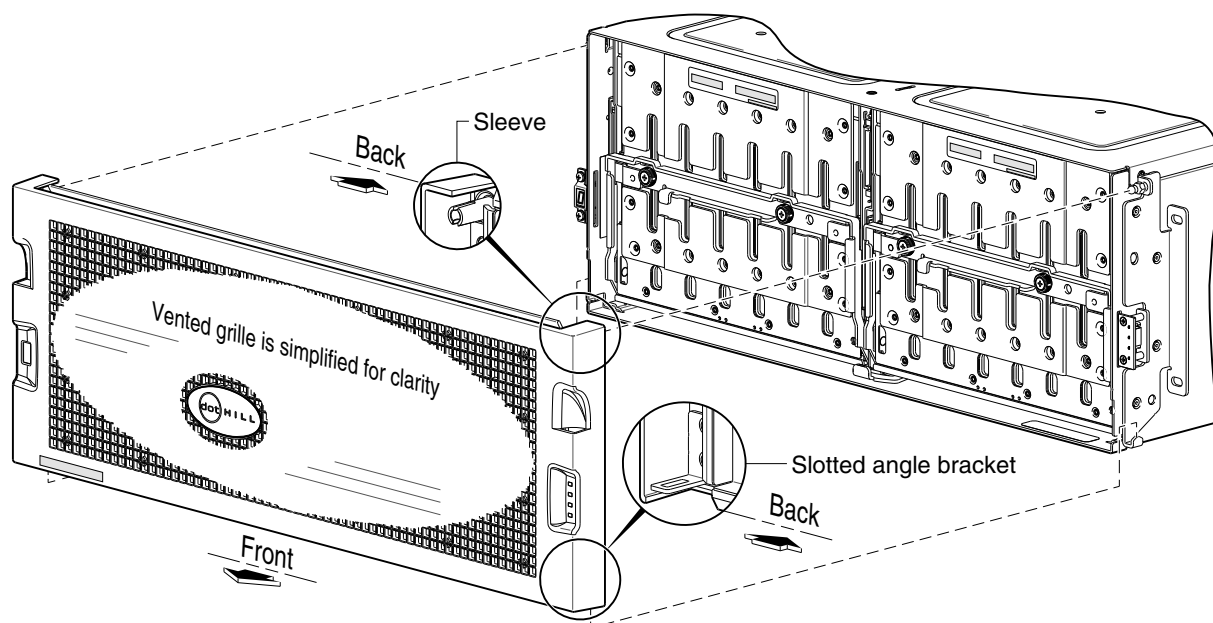

Figure 15 Partial assembly showing bezel alignment (4U)
- See Figure 15 on page 26 for 4U enclosure bezel alignment.
NOTE: Instructions for attaching and removing the 4U56 enclosure bezel follow Figure 15.